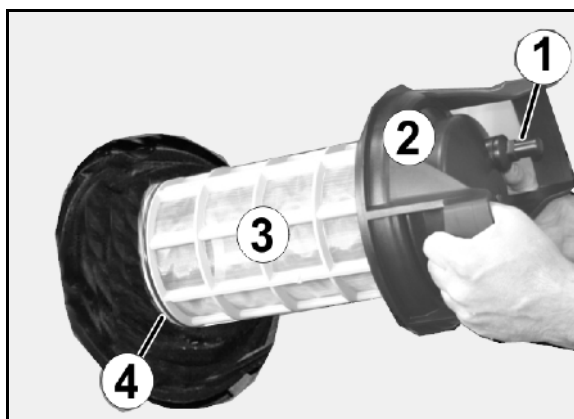

Fig. 141
- Clean the suction filter (Fig. 141) on a daily basis after cleaning the field sprayer.
- Grease the O-ring seal at the bottom of the suction filter (Fig. 141/4).
1. Unscrew the cover of the suction filter (Fig. 141/2).
2. Remove the cover with suction filter (Fig. 141/3) and clean with water.
6. Unscrew the cover of the suction filter (Fig. 141/2).
7. Activate the relief valve on the suction filter (Fig. 141/1).
8. Remove the cover with suction filter (Fig. 141/3) and clean with water.